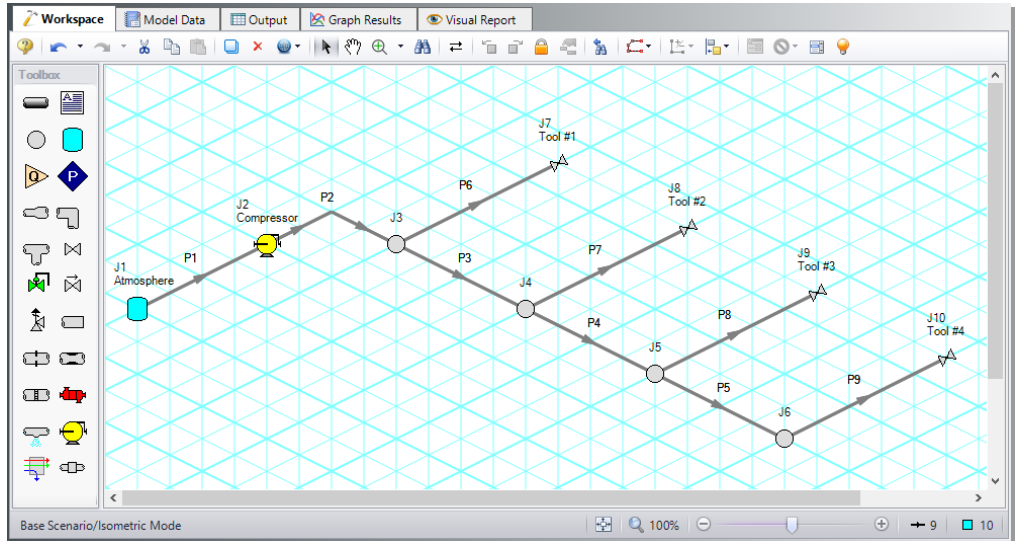

Figure 3.17 Compressed air system with the isometric grid shown
At times it may be convenient to demonstrate the three-dimensional nature of a system. For example, you may be building a model based on isometric reference drawings. AFT Arrow includes an Isometric Pipe Drawing Mode for these cases. The isometric grid has three gridlines that are offset by 60°, representing the x, y, and z axes. Figure 3.17 shows the compressed air system built on an isometric grid.
4. Place junctions J1-J7 on the Workspace in the positions shown in Figure 3.17.